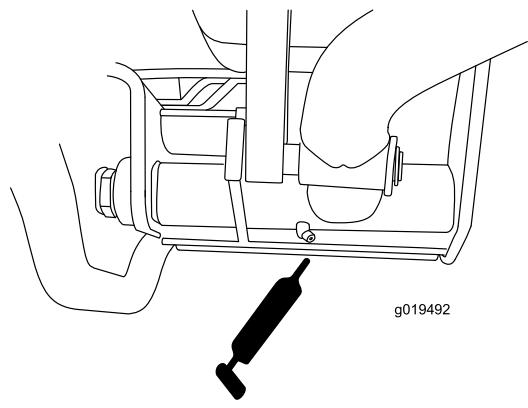

Figure 42
- Rear lift arm pivots (2) (Figure 42)